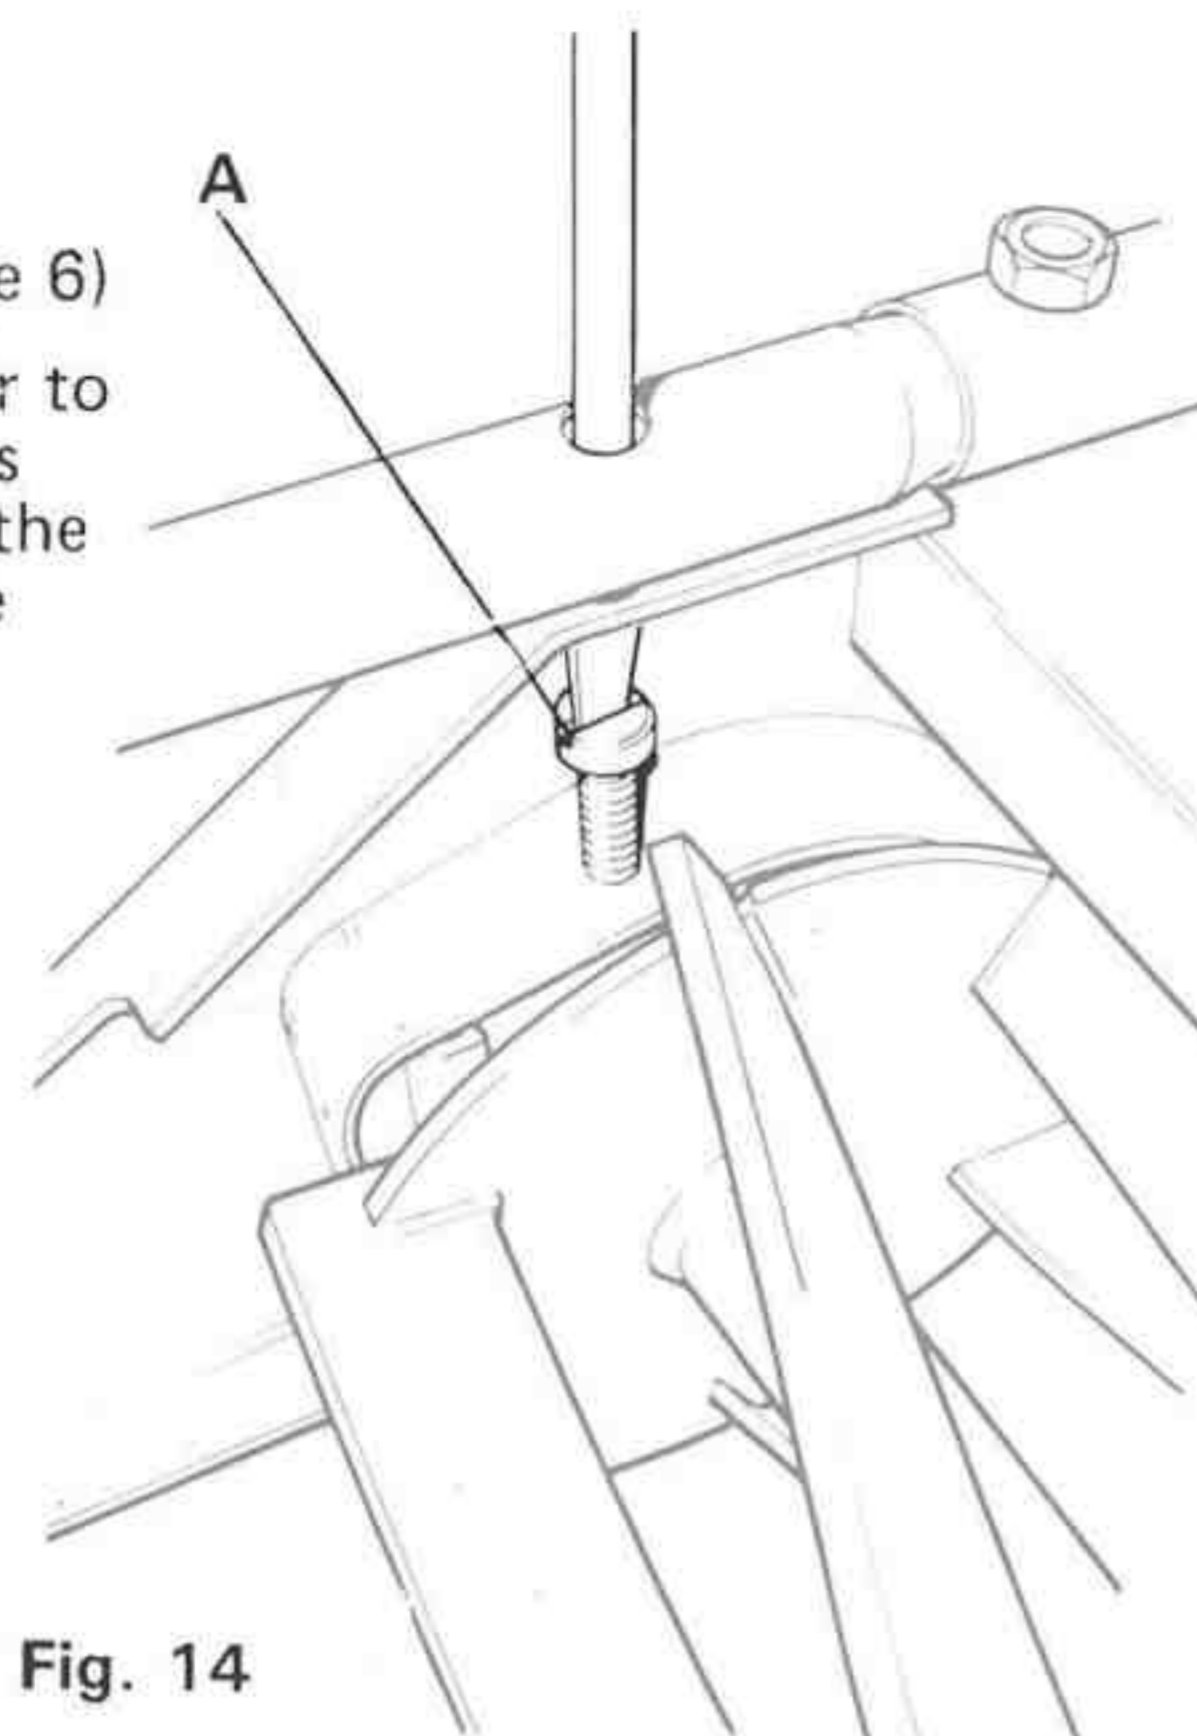

Fig. 14
- 3 Adjust the cutting cylinder closer to the bottom blade by turning the screws (A, Fig. 14) clockwise on each side of the mower a little at a time. The blades are correctly adjusted when the cutting cylinder lightly brushes the bottom blade evenly across its full width as the cylinder is turned.